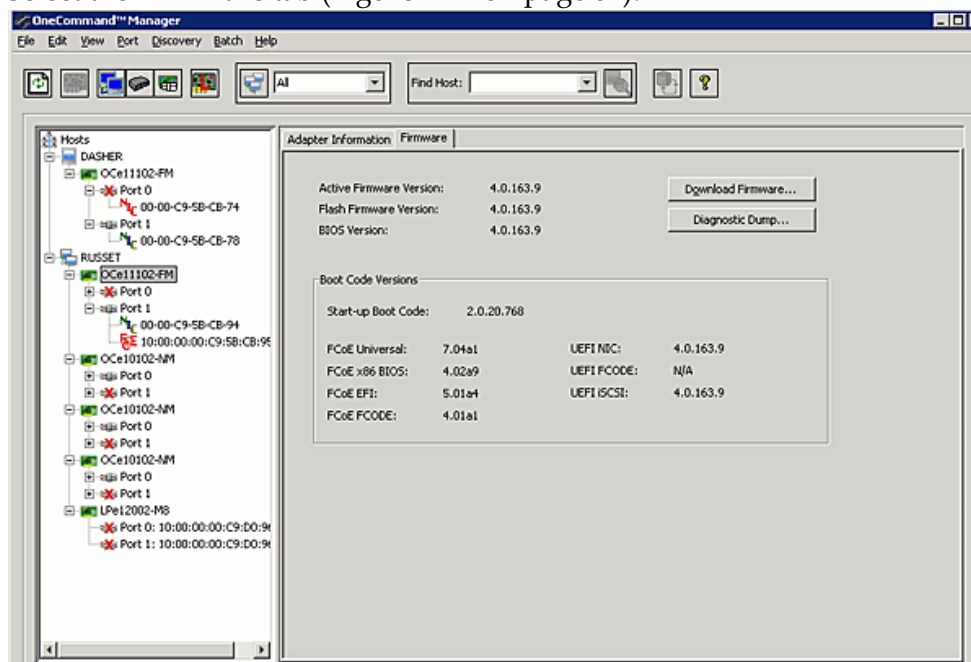

Figure 7-14 OneConnect Firmware Tab
Unlike LightPulse adapters, OneConnect adapter firmware is maintained on an adapter-specific, instead of port-specific, basis. Use the Firmware tab (Figure 7-14 on page 84) to download firmware and create diagnostic dumps for the selected adapter.
3. Select the **Firmware** tab (Figure 7-14 on page 84).